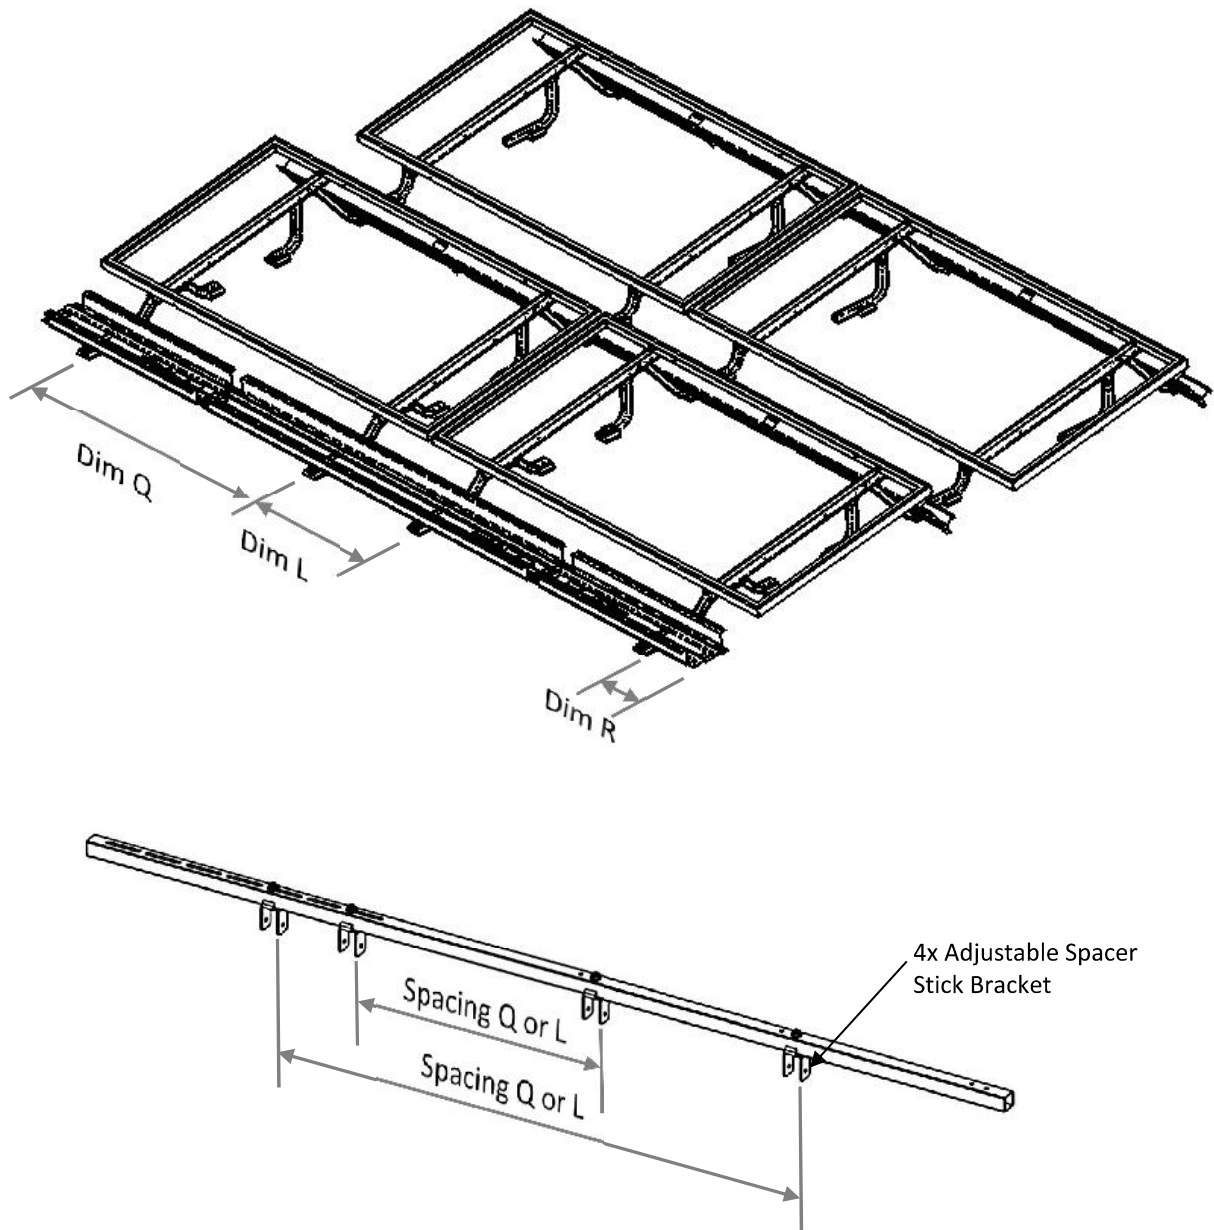

Figure 2 Spacer Stick
- Spacer Stick (supplied) Figure 2 on page 8.
1. Consult the provided Racking Construction Set drawing for the Support spacing between modules (Spacing L) and Support spacing under modules (Spacing Q) (Figure 2). Dimensions L and Q are module dependent and vary for each manufacturer.